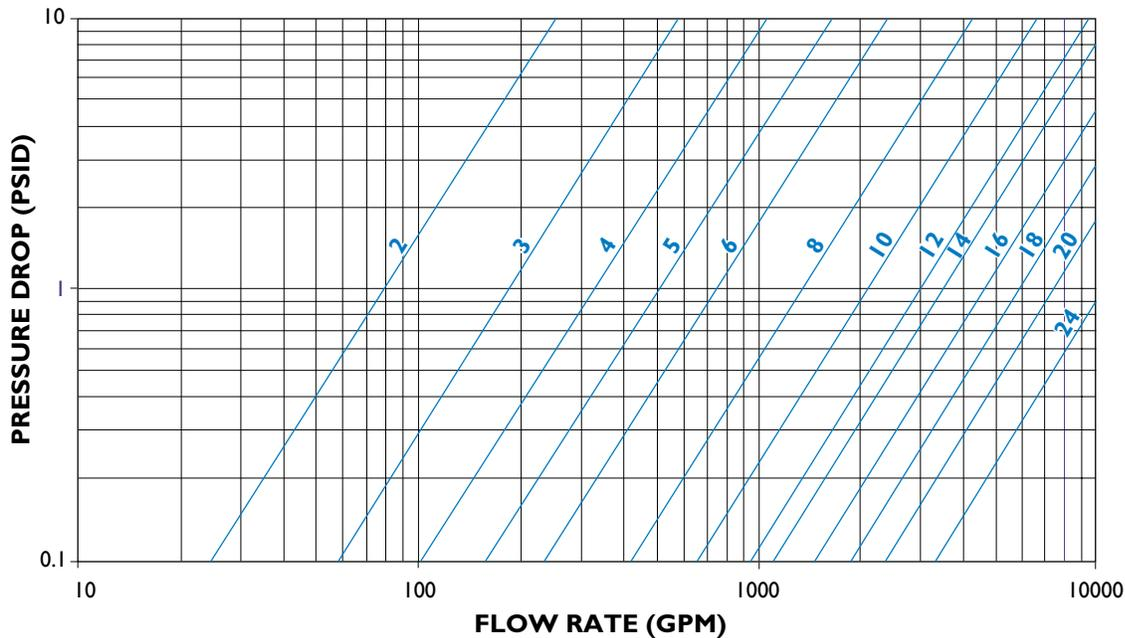

FIGURE 2
2. For Style 1 basket strainers multiply value obtained in figure 2 by 1.15 to obtain clean pressure drop.